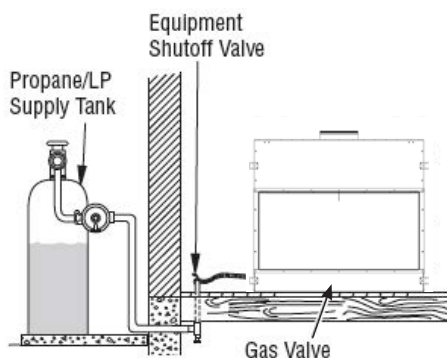
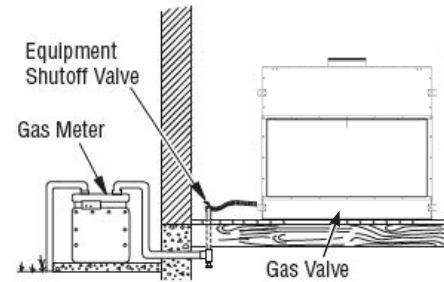

Figure 30 - Checking Gas Joints for Propane/LP Gas Fireplace (Fireplace picture may vary from actual)
Figure 31 - Checking Gas Joints for Natural Gas Fireplace (Fireplace picture may vary from actual)
3. Check all joints from propane/LP supply tank or gas meter to equipment shut-off valve (see Figure 30 or Figure 31). Apply noncorrosive leak detection fluid to all joints. Bubbles forming show a leak.
4. Check all joints from equipment shut-off valve to gas valve (see Figure 30 or Figure 31). Apply noncorrosive leak detection fluid to all joints. Bubbles forming show a leak. Correct all leaks at once.